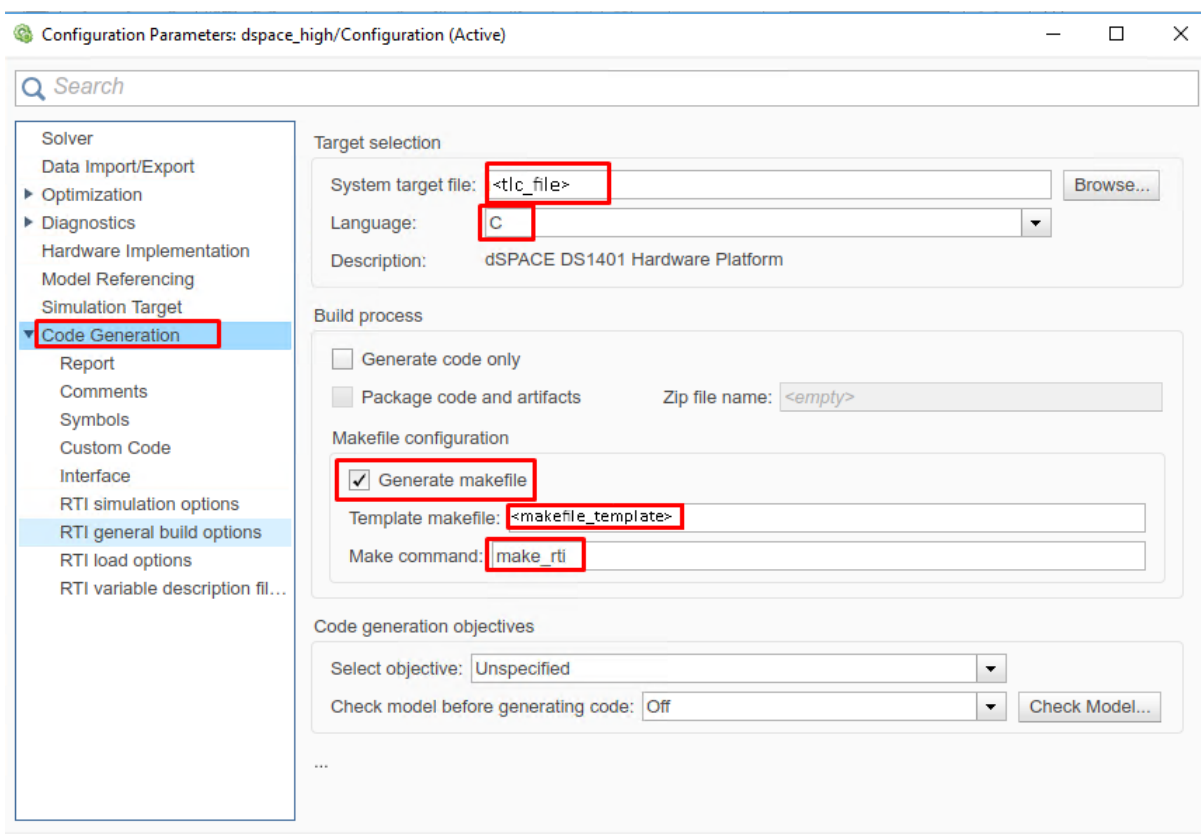

Figure 13.9: Set the Simulink code generation options.
9. (Figure 13.9) In the “Code Generation” tab, set the options (for <tlc_file> and <makefile_template> see *Simulink Model HW Target Configuration*):